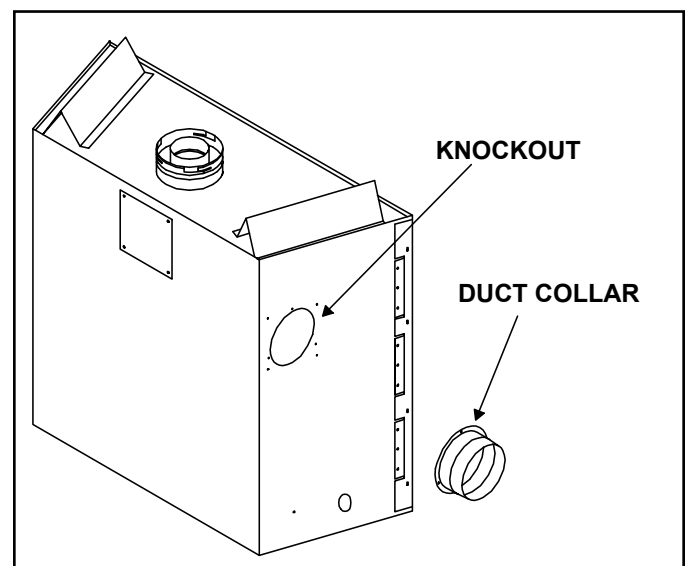

Figure 2.
**NOTE:** Do this BEFORE final positioning of the fireplace. See Figure 2.
**NOTE:** Do this BEFORE final positioning of the fireplace See Figure 2.